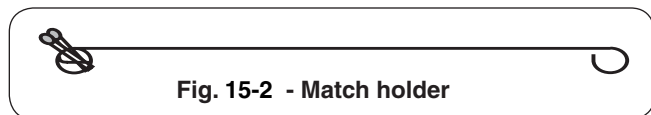

Fig. 15-2 - Match holder
2. Insert either a burning long-barrel butane lighter, a burning long-stem match, or a burning match held by a wire extension holder (Fig. 15-2) through the cooking grids to the burner. (Fig. 15-3). For backburners, hold the flame against the perforated material of the backburner. For sideburners, hold the flame against the burner.